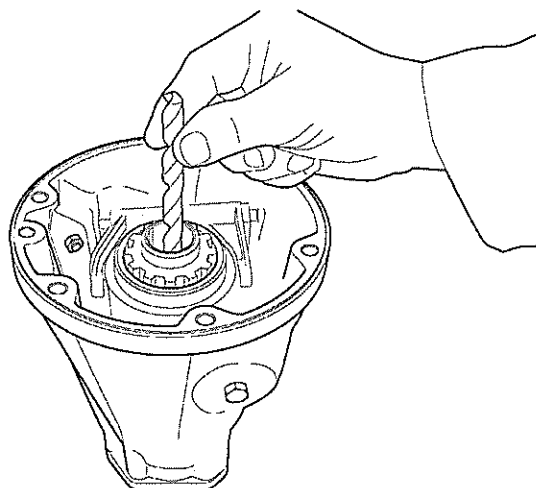

Fig 18 Checking bush bearing wear
28.2 If the plain shank of a 12.3 mm twist drill can be inserted into bearing bush, replace bearing bush (see Fig 18).